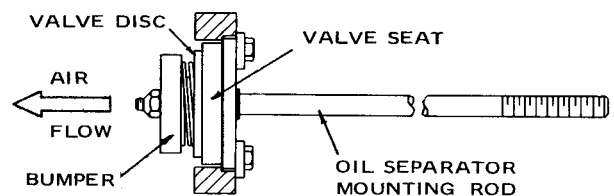

FIGURE 2-2. — RESERVOIR CHECK VALVE
**CHECK VALVE (Oil Reservoir)** (Figures 2-2 & 1-3) — A renewable resilient disc-type check valve between the oil reservoir (separator) and air receiver sections prevents backflow of air when the unit stops, unloads or is shut down.